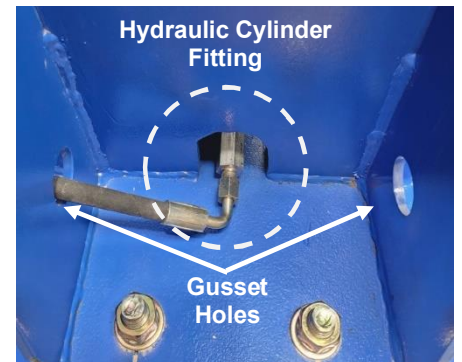

Fig. 9
- 5) Connect another end of **Hydraulic Hose** to the **Cylinder Hydraulic Fitting** located on the lower backside of column. **NOTE: Ensure to route Hydraulic Hose through the specific gusset hole that is closest to the selected power unit mounting position.** **Fig. 9**